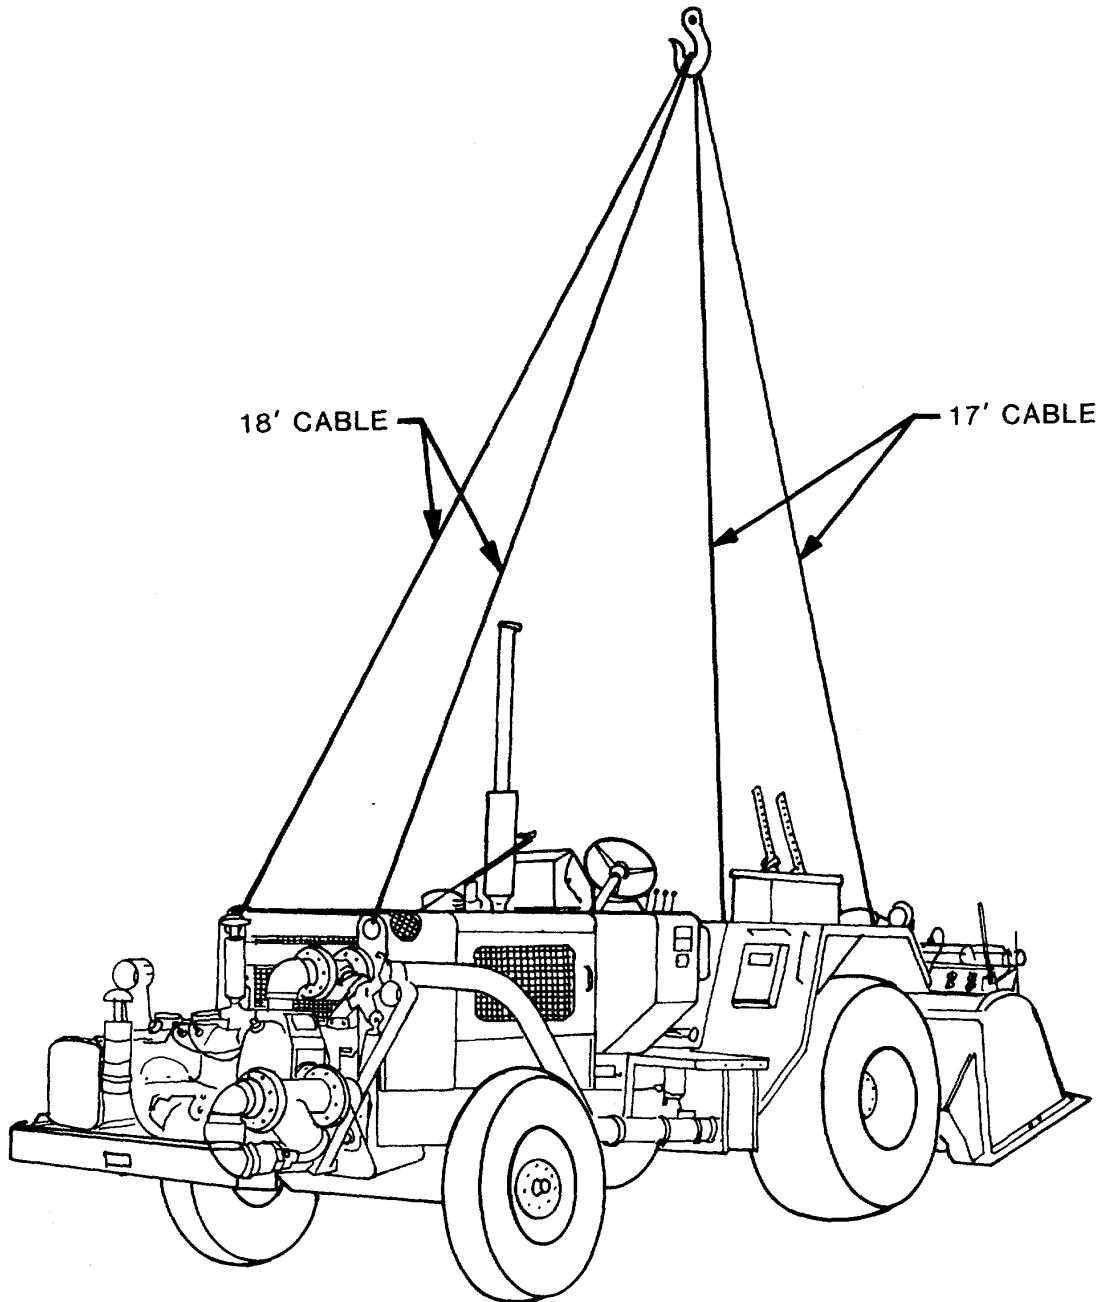

Figure 6-1. Lifting diagram for M076 rotary tiller mixer.
b. *Lifting.* Correct lifting points on the vehicle are the lifting eye provisions located as shown in figure 6-1.